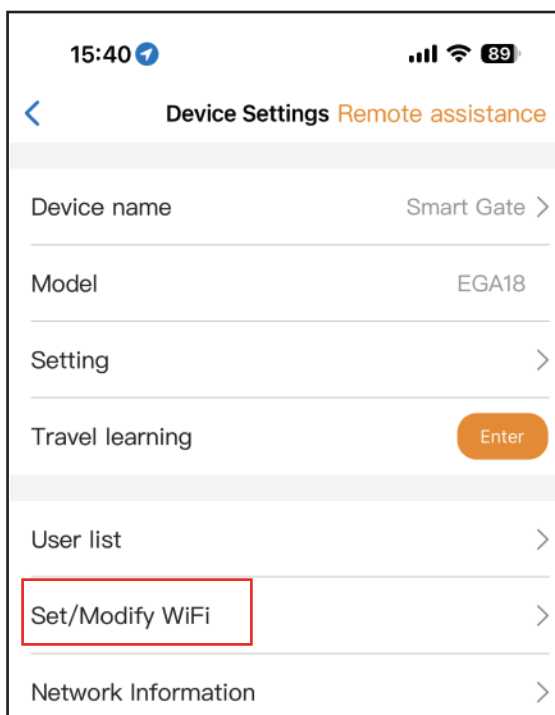

Fig 7
Step 1. Select the device, press the “⚙️” on the top right corner. Click the “Set/Modify WiFi”. (Fig 7)